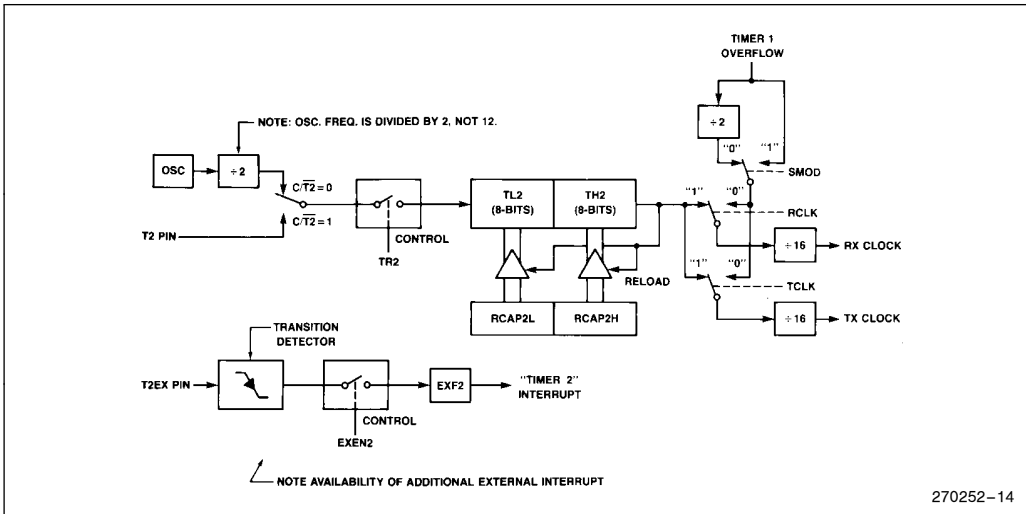

Figure 16. Timer 2 in Baud Rate Generator Mode
11). Note then the baud rates for transmit and receive can be simultaneously different. Setting RCLK and/or TCLK puts Timer 2 into its baud rate generator mode, as shown in Figure 16.
Timer 2 as a baud rate generator is shown in Figure 16. This Figure is valid only if RCLK + TCLK = 1 in T2CON. Note that a rollover in TH2 does not set TF2, and will not generate an interrupt. Therefore, the Timer 2 interrupt does not have to be disabled when Timer 2 is in the baud rate generator mode. Note too, that if EXEN2 is set, a 1-to-0 transition in T2EX will set EXF2 but will not cause a reload from (RCAP2H, RCAP2L) to (TH2, TL2). Thus when Timer 2 is in use as a baud rate generator, T2EX can be used as an extra external interrupt, if desired.